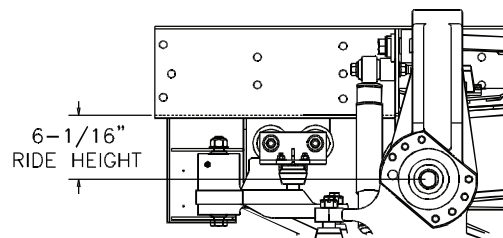

Figure 12 - Ride Height Measurement
2. Measure the ride height of the suspension. The ride height should be 6-1/16 inches. It is measured at the axle centerline and is the distance from the bottom of the chassis frame rail to the center of the wheel (See Figure 12). An alternate measurement may be taken as the distance between the center of the shock mounts which should be 16-1/8 inches. These measurements can be taken with the vehicle empty or loaded.